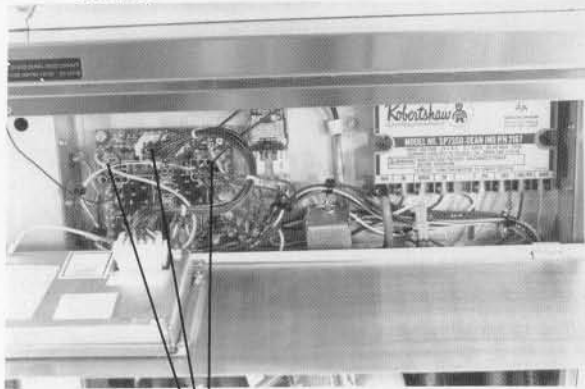

Figure 14
3. Disconnect 3 plugs from board (Fig. 14).
4. Unplug 2 relays from board (Fig. 14).
5. Disconnect all wires from board (Fig. 14).